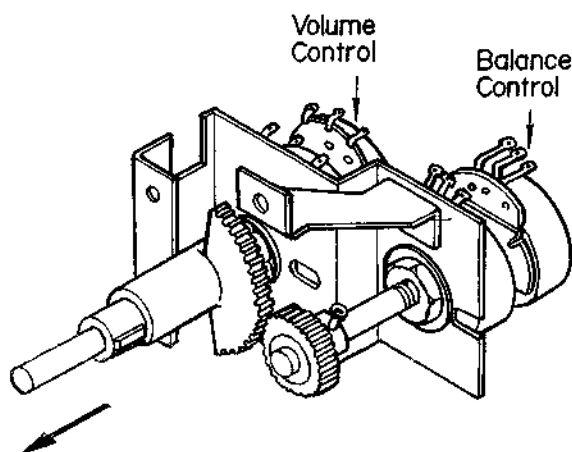

Fig. 2-13
- (1) As the sector is in gear with the balance control shaft to provide proper lever action, set the sector at the position as shown in Fig. 2-13, then pull it straight out.